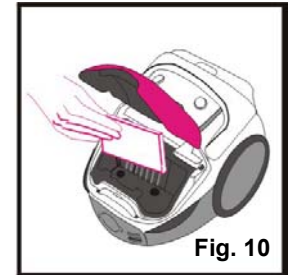

Fig. 10
If you are using the cloth bag, you should wash the motor protection filter (11) in lukewarm water once or twice a year. Make sure that the filter is completely dry before you put it back into the vacuum cleaner. (See fig. 10)